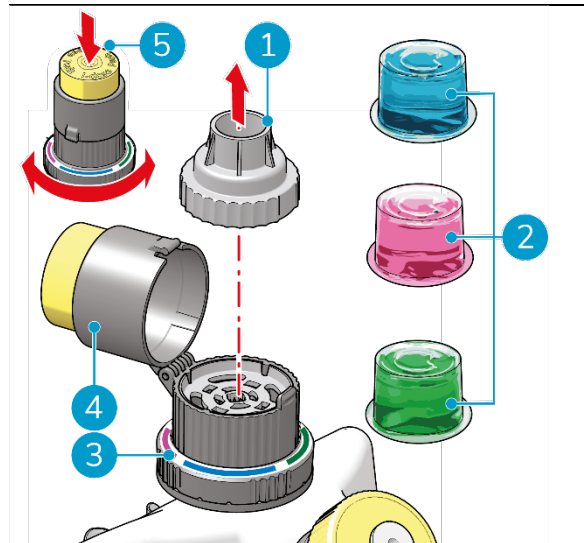

Figure 17
7. If applicable, remove the old i-dose pod and remove the cap (Figure 17, pos 1).
8. Place the desired i-dose pod (Figure 17, pos 2) in the i-dose injector.
9. But back the cap (Figure 17, pos 1).
10. Close the i-dose top (Figure 17, pos 4).